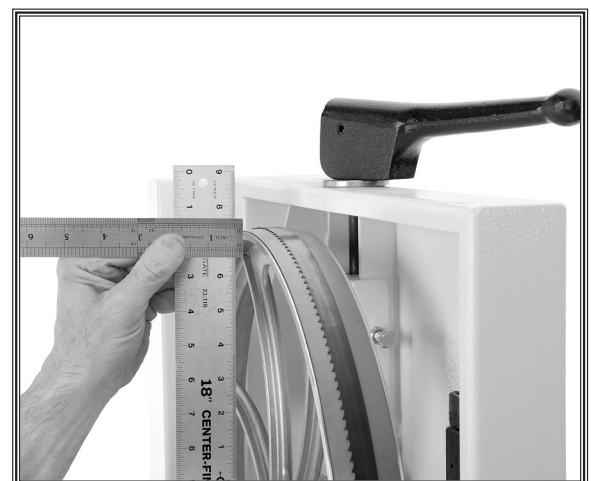

Figure 56. Measuring wheel difference.
3. With the straightedge touching both points of the wheel that does not need to be adjusted, measure the distance away from the incorrect wheel with a fine ruler (see **Figure 56**).